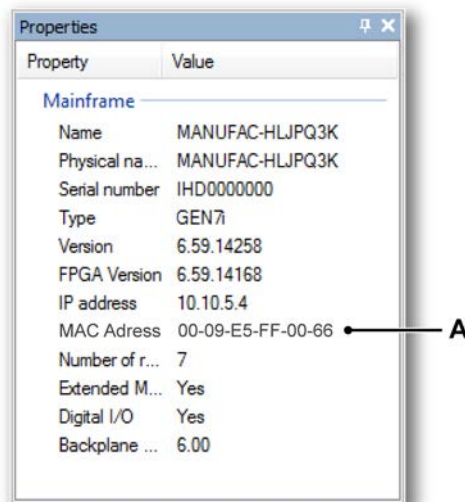

Figure H.5: Properties window in Perception
- 3 Enable the **Properties Window** (see Figure H.5); this can be found in the Perception “Windows” menu.